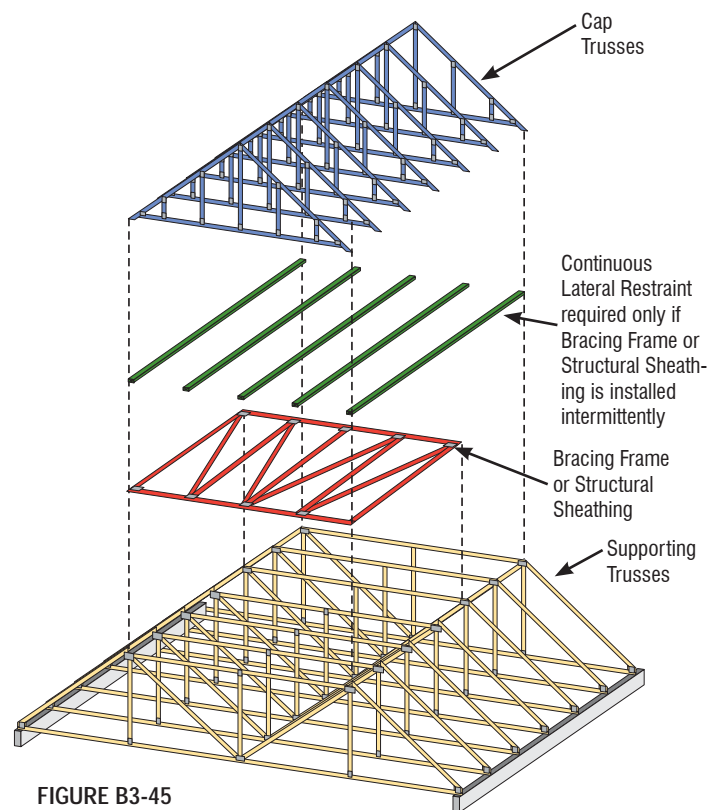

FIGURE B3-45
- adding Structural Sheathing or using bracing frames (see Figure B3-45), or